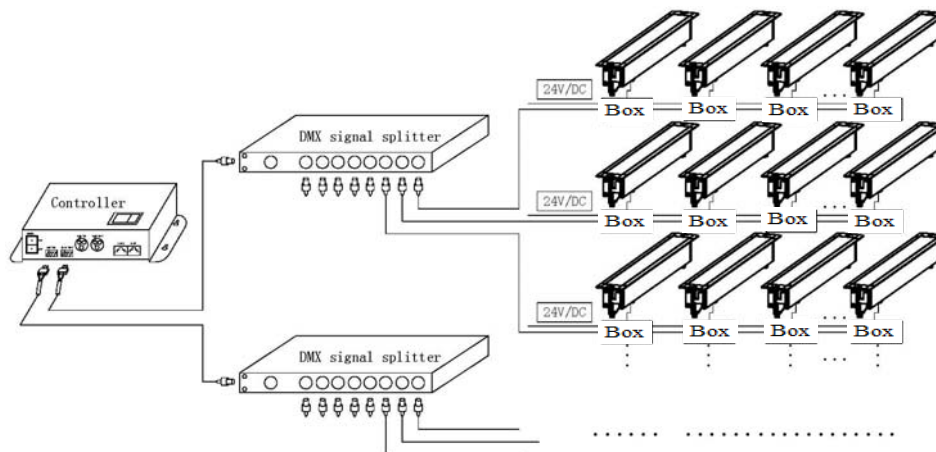

Figure 8
1. Wiring method of DMX512 dimming lamp (Figure 8).